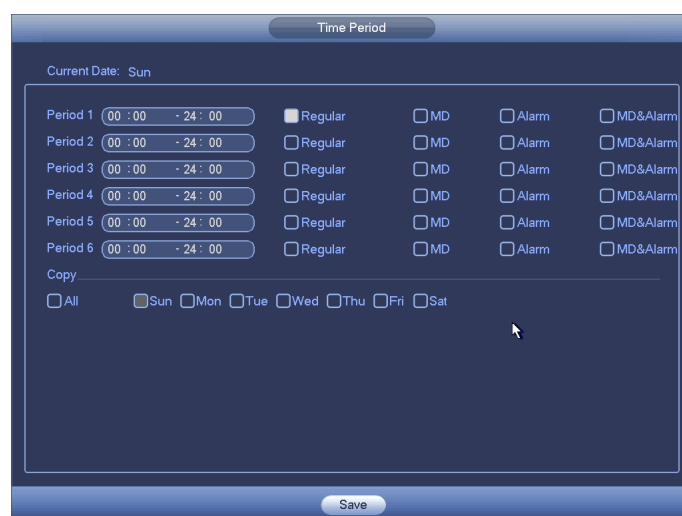

Figure 4-129
- **Period setup:** Click button  after one date or a holiday, you can see an interface shown as in Figure 4-129. There are four record types: regular, motion detection (MD), Alarm, MD & alarm.